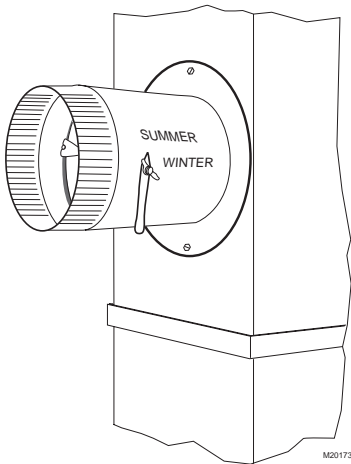

Fig. 6. Installing the starter collar.
11. Assemble the summer shutoff damper into the starter collar. Verify that the damper rotates freely between the open and closed positions. Make sure the handle is accessible. Mark the damper Closed position as Summer and the Open position as Winter. See Fig. 6.